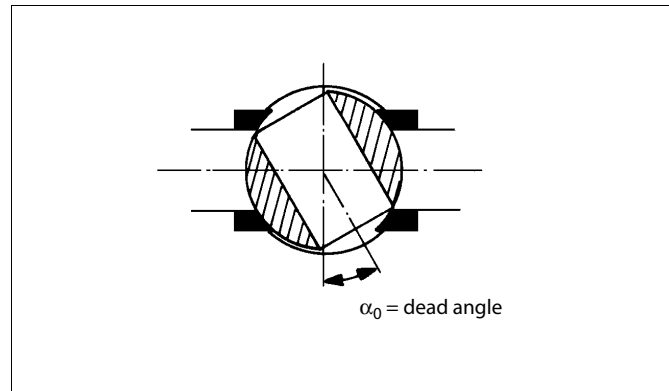

Fig. 13 Zero and range adjustments
4. Set the input signal at the closed limit of the valve so that it is 2 % i.e. 0.3 mA higher or lower than the limit value, (e.g.  $4 + 0.3 = 4.3$  mA or  $20 - 0.3 = 19.7$  mA). Turn the zero adjustment nut (61) with a screwdriver or fingers so that the actuator comes slowly to the closed limit. The valve should open slightly with a 4 % change in signal, that is 0.6 mA, (e.g.  $4 + 0.6 = 4.6$  mA or  $20 - 0.6 = 19.4$  mA). See Figure 13.
Check the condition of the O-rings (43 and 47) and of the gasket (45). The end of the leaf spring on the beam must be on top of the pilot valve spool (Figure 13). Make sure that the end of the beam (5) goes into the spool groove without sideways deflections. After tightening the nuts (49), check the beam once again by hand to see that the pilot valve moves readily.